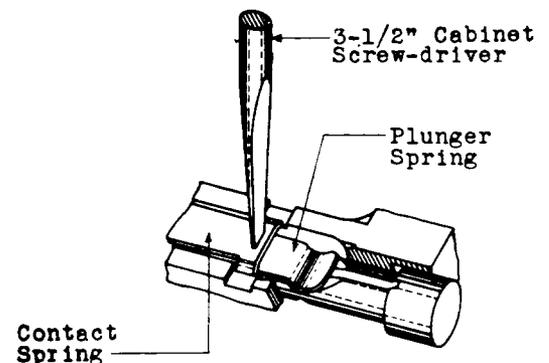

**Fig. 8 – Method of Adjusting for Contact Separation on 69, 492, 508, 521 and 539 Type Keys**
**M-4 Contact Separation 69, 492, 508, 521, and 539 Type Keys:** If there is not sufficient separation between the contacts of keys of these types, carefully lift the contact spring away from its associated plunger spring to permit grasping the projections on either side of the spring with the long nose pliers as shown in Fig. 8. To increase the contact separation bend the projections forward, that is, toward the contact side of the spring. To reduce the contact separation, bend the projections backwards, or proceed as outlined below. If it is impossible to obtain a satisfactory contact separation without excessive bending of the projections on the contact spring, the plunger spring is probably distorted. In this case, remove and adjust it as specified in procedure 3.02.